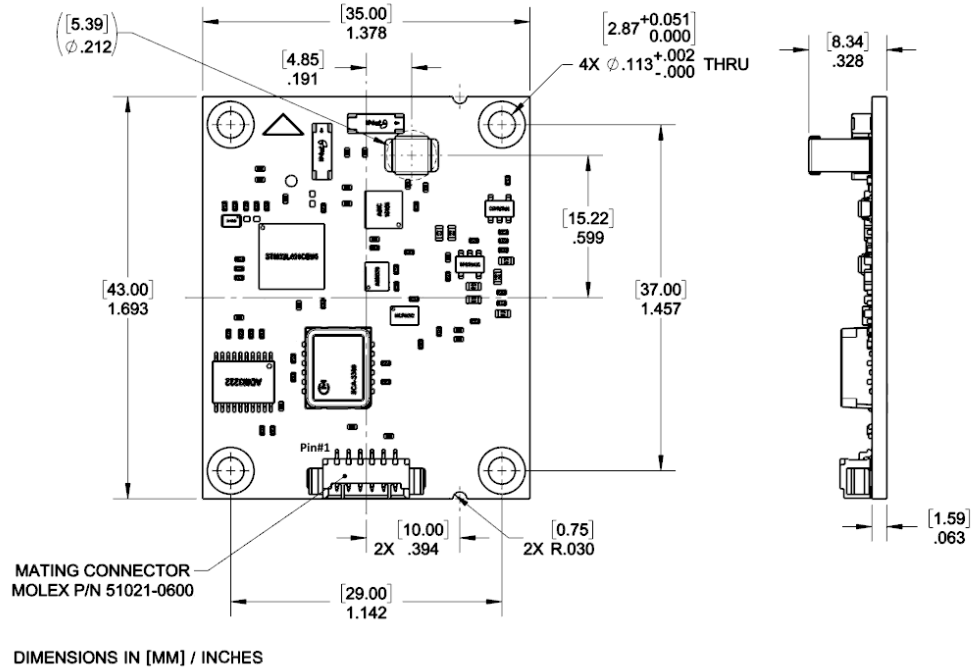

Figure 3-2: TRAX2 PCA Mechanical Drawing
1. Pin #1 is the left most position of the connector as indicated on Figure 3-2